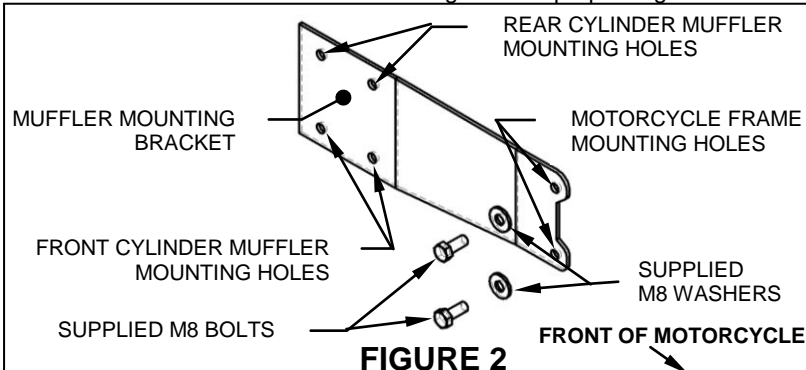

**FIGURE 1**
6. Attach the bent end of the supplied master cylinder relocation bracket to the stock rear brake reservoir bracket using the stock bolt (see figure 1).